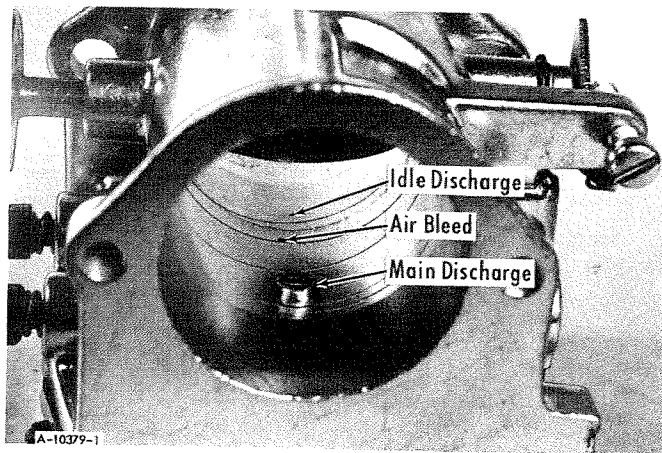

FIGURE 28
1. If leaks occur at discharge or air bleed holes in the air passage (Figure 28), the fuel inlet valve and/or valve body is defective. Install a new inlet valve needle and recheck for leakage. If after a new valve needle has been installed there is still leakage, install a new valve body.